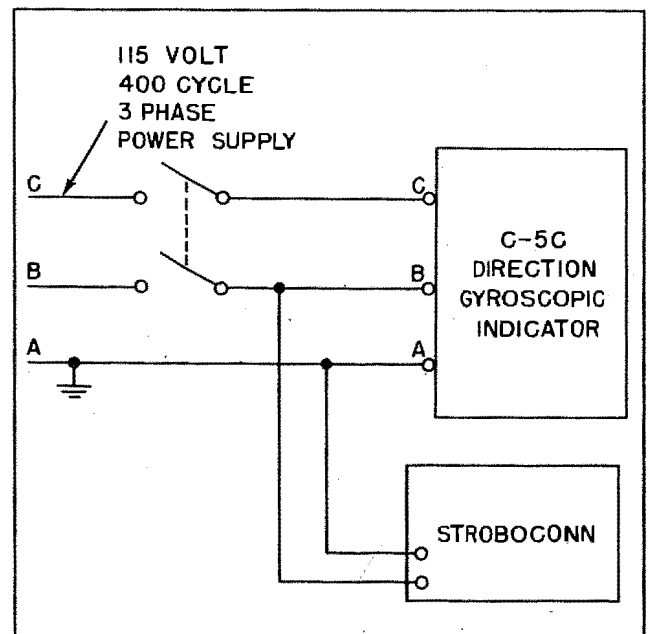

Figure 47R. Setup for Checking Gyro Rotor Speed.
(1) TWO AND ONE-HALF DEGREES ROLL, PITCH, AND YAW TEST. The Scorsby equipment or equivalent, roll, pitch, and yaw testing device shall be set to roll, pitch, and yaw 2-1/2 degrees (1-1/4 degrees on either side of the level or reference position). The Scorsby shall provide five to seven oscillations per minute while reversing every sixth revolution.
(2) FIFTEEN DEGREES ROLL, PITCH, AND YAW TEST. The Scorsby equipment or equivalent roll, pitch, and yaw testing device shall be set to roll, pitch, and yaw 15 degrees (7-1/2 degrees on either side of the level or reference position). The Scorsby shall provide five to seven oscillations per minute while reversing every sixth revolution.
b. The rotor of the gyro should attain a speed of 375 revolutions per second minimum. The speed of the gyro may be determined by measuring the frequency of the back voltage immediately after turning off the power. To make this test use a Stroboconn (C.G. Conn Ltd., Elkhart, Indiana) or equivalent, connected as shown in figure 47R.